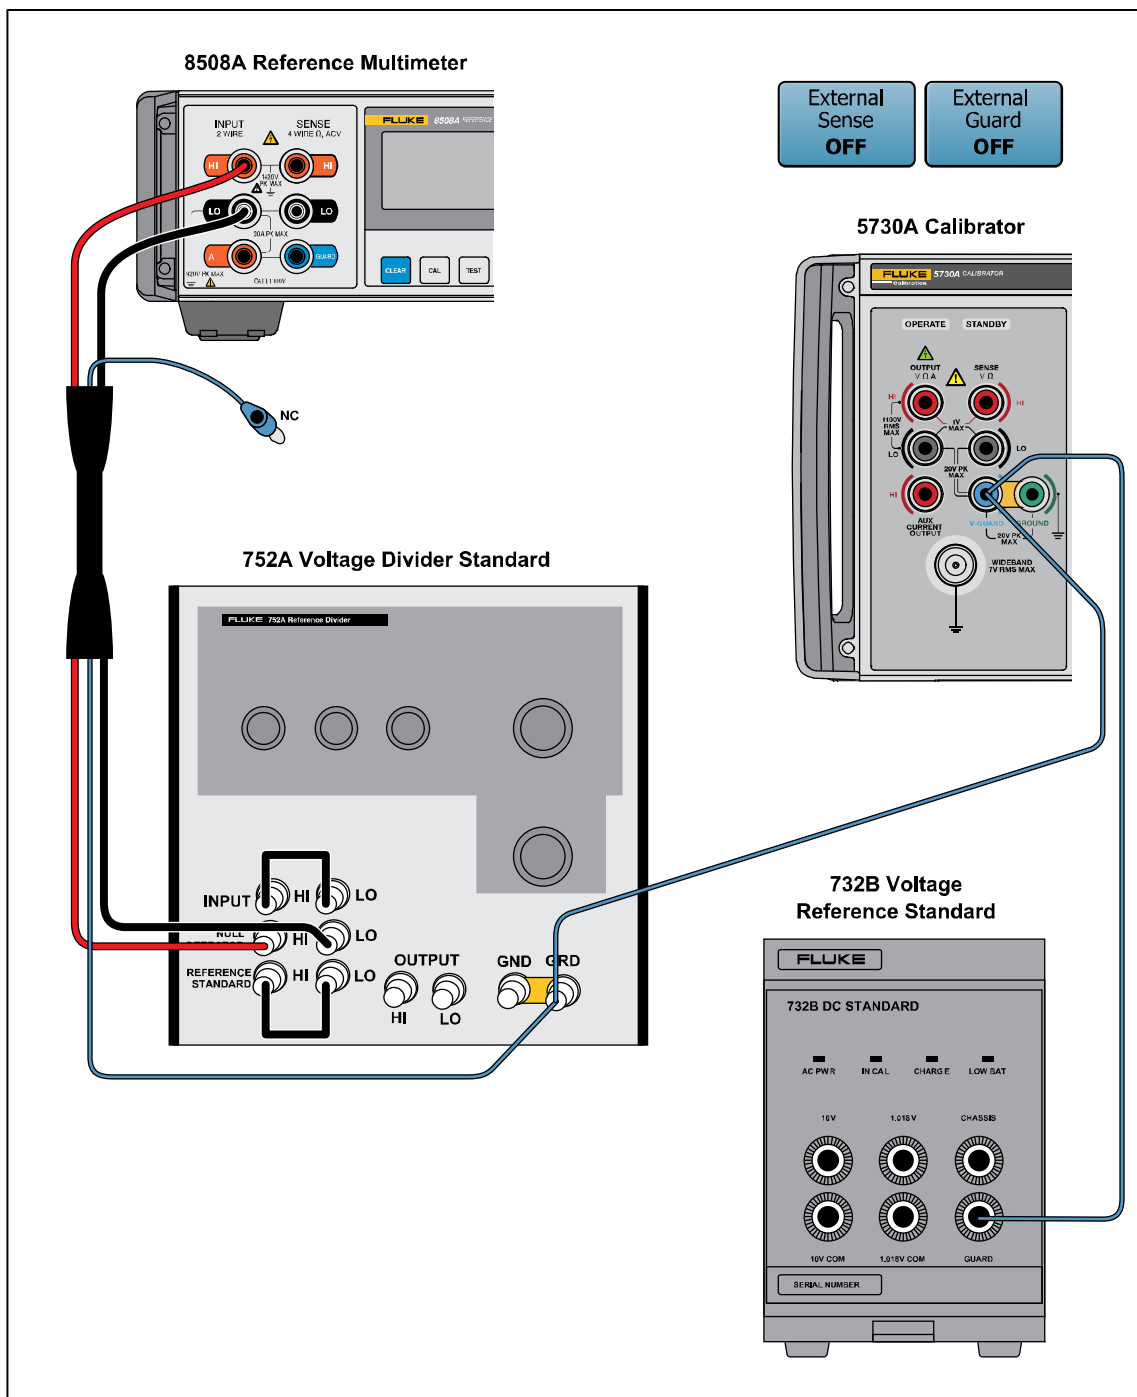

Figure 13. Zero Null Detector Connections
2. Connect the reference divider and the 8508A as shown in Figure 13. The short on the INPUT and REFERENCE STANDARD inputs of the reference divider must be a low thermal EMF connection. A piece of copper wire is recommended for this.